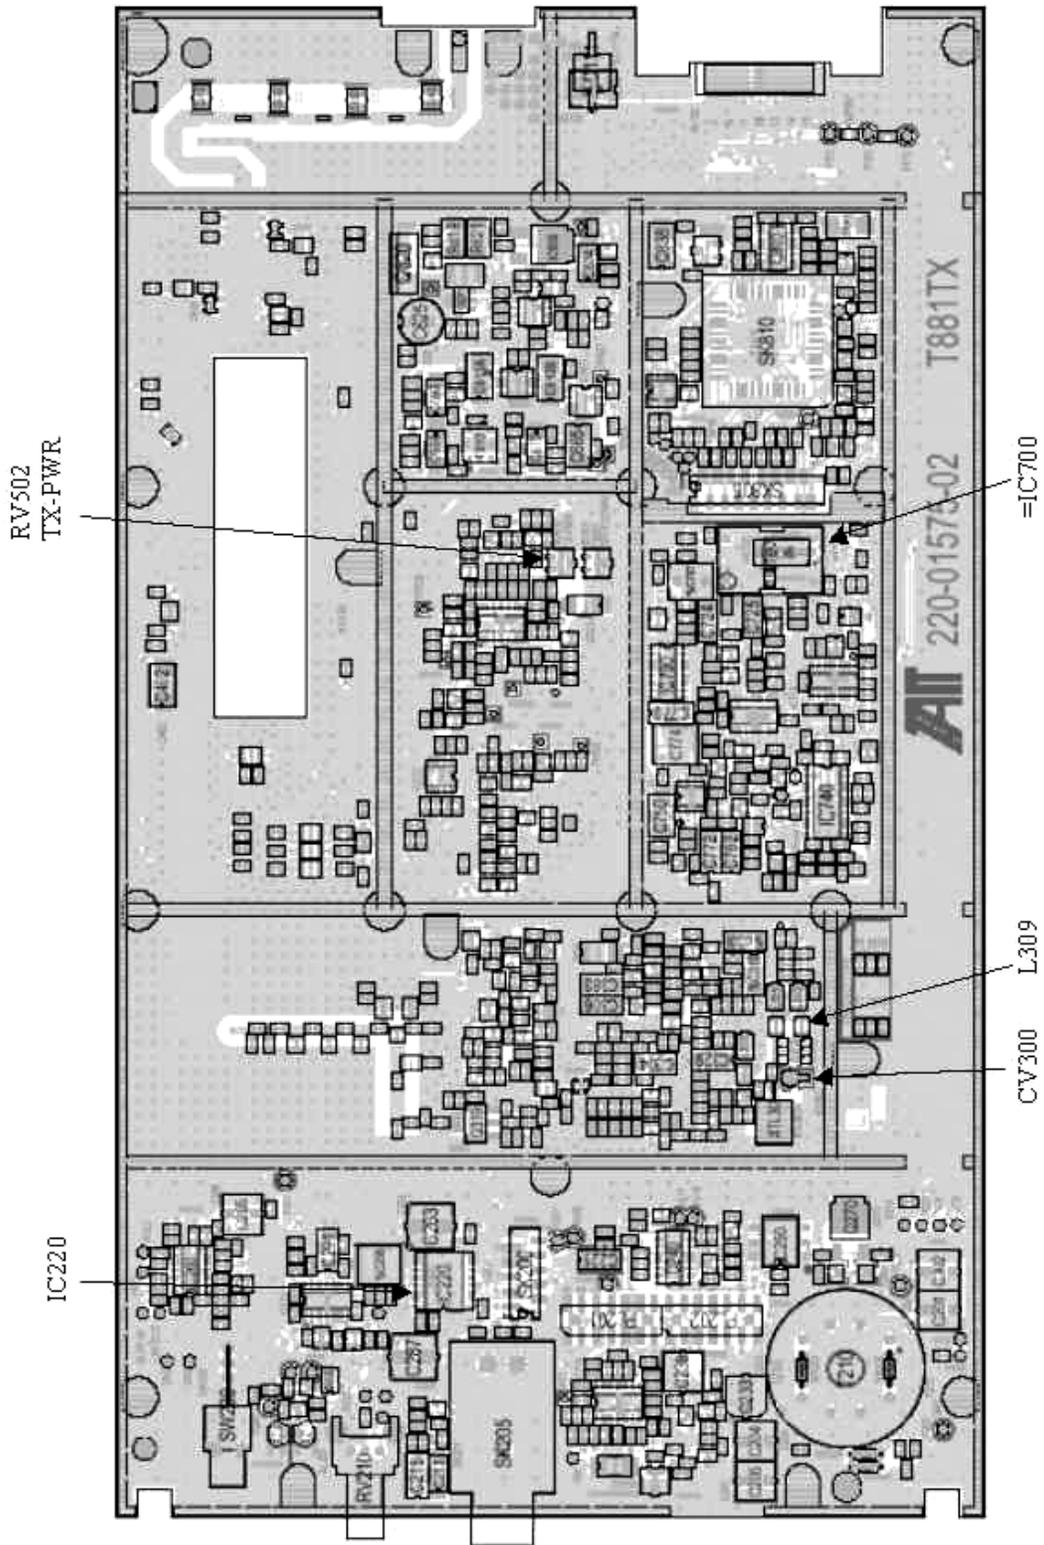

Figure 21 - T881-0200 Exciter Tuning Controls location
Note 1: Refer to Figure 21 (T881).
- T881 = 5W +0/-300mW (RV502, Figure 21)